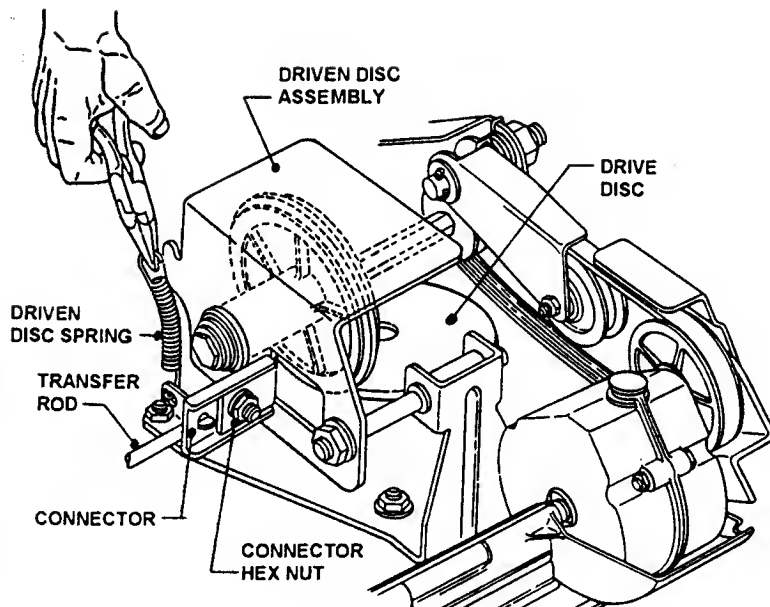

FIGURE 3.13
2. Remove driven disc spring from driven disc assembly as shown. Loosen connector hex nut. See Figure 3.13.